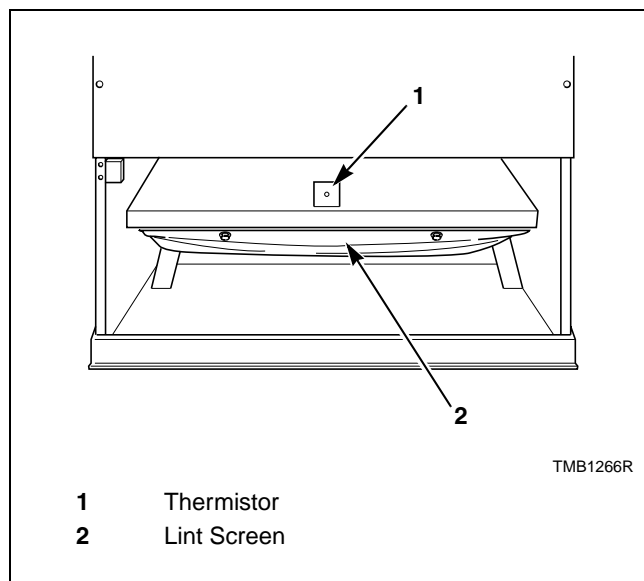

Figure 9
- e. Carefully wipe any accumulated lint off of the cabinet high limit thermostat and thermistor. Failure to do so will allow a buildup of lint in this area to act as an insulator, causing the tumbler to overheat. Refer to *Figure 9*.